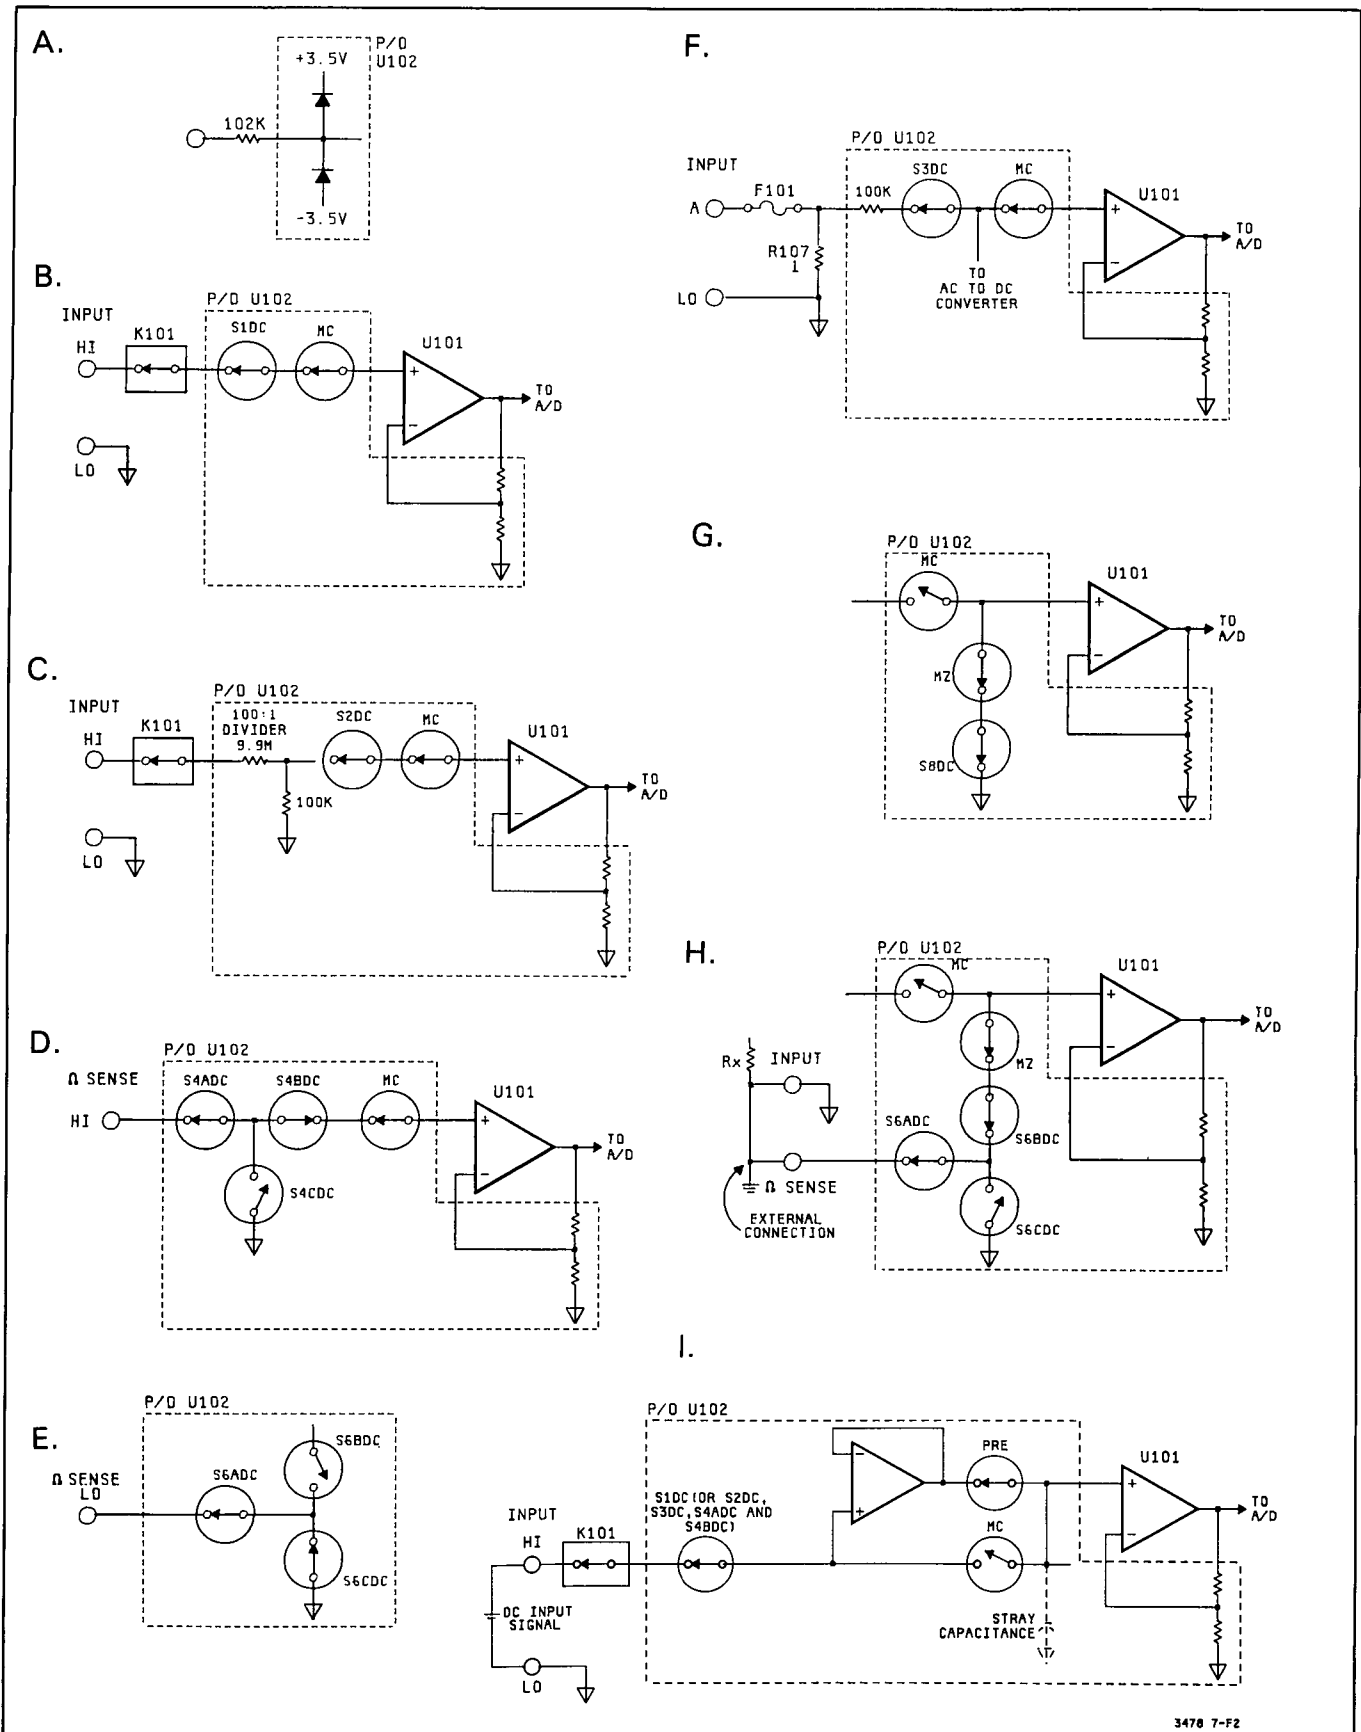

Figure 7-F-2. Simplified Schematic Of The Input Switching Circuitry
b. **Low Voltage Protection.** This circuit consists of diodes connected to the individual input nodes (part of the HI INPUT, LO INPUT, A INPUT Paths, etc.). The diodes on each node are connected (internally in U102) to +3.5V and -3.5V power supplies. If the voltage on a node exceeds either +4.2V or -4.2V, a diode conducts and keeps the level on the node to the $\pm 4.2V$ levels. The difference between the high voltage at the input terminals and the voltage at the input nodes is dropped across the resistors which are in series with the diodes and input terminals (the low pass filter). Figure 7-F-2A shows a typical protection circuit.
7-F-13. Input Switching. The Input Switching Circuitry consists mostly of Relay and MOSFET switches, with most FET switches located in U102. The purposes of the switches are to provide five signal paths to the Input Amplifier and to connect the amplifier for a zero measurement (done in the Autozero Function; see paragraph 7-F-14). The switches are controlled by circuits in U102 which receive their control information from the A/D Controller. The following explains the various input paths. Refer to Figure 7-F-2 and Schematic 1 for the explanation.
a. **Low Voltage Range Input Path (Figure 7-F-2B).** The path consists of K101, R103, R104, R110, and S1DC (S1DC is in U102). The purpose of the path is to connect the HI INPUT Terminal (high input voltage) to the DC/Ohms Input Amplifier. The path is used only in the 30mV through 3V dc volts Ranges and all Ohms Ranges.
b. **High Voltage Range Input Path (Figure 7-F-2C).** The path consists of R110, K102, S2DC (in U102), and a 100:1 divider (9.9M ohm and 100K ohm resistors, RD99 and RD98, in U102). The purpose of the path is to attenuate input voltages by a factor of 100 and to connect the attenuated voltage to the DC/Ohms Input Amplifier. The path is used only in the 30V and 300V dc volts Ranges.
c. **Ohms High Sense Path (Figure 7-F-2D).** This path consists of R105, R106, and S4ADC and S4BDC (S4ADC and S4BDC are in U102). The path connects the HI OHMS SENSE Terminal (high ohms input) to the DC/Ohms Input Amplifier, only when the 3478A is in the 4-Wire Ohms Function. Switch S4CDC (which is also part of the path) is used to connect the junction of S4ADC and S4BDC to ground. Switch S4CDC is closed in all functions except the 4-Wire Ohms Function and shunts any possible voltage on the S4ADC and S4BDC junction to ground.
d. **Ohms Low Sense Path (Figure 7-F-2E).** This path consists of R101, R102, and S6ADC and S6CDC (S6ADC and S6CDC are in U102). The path is used to connect the LO OHMS SENSE Input Terminal (low ohms input) to ground (LO INPUT Terminal), when the 3478A is in the 4-Wire Ohms Function. In the 2-Wire Ohms Function, the low ohms input is the LO INPUT Terminal (which is connected to ground).
e. **Current Input Path (Figure 7-F-2F).** This path includes R107 and S3DC (in U102). The voltage drop across R107 (which is generated by the current being measured) is connected through S3DC to the DC/Ohms Input Amplifier. This path is used only in the DC Current Function.
a. **Autozero (in the DC Volts, DC Current, and 2-Wire Ohms Functions).** In the DC Volts, DC Current, and 2-Wire Ohms Functions, the zero measurement is made with switch MC (measure customer) open, and switch MZ (measure zero) and S8DC closed (see Figure 7-F-2G). Switch S8DC and MZ connects the DC/Ohms Input Amplifier to ground through a 102K ohm resistor. After the zero measurement is made, switch S8DC and MZ opens, and switch MC closes for the input measurement. (Note: MOSFET switches MC, MZ, and S8DC are in U102.)
b. **Autozero (in the 4-Wire Ohms Function).** In the 4-Wire Ohms Function, the zero measurement is made with switch MC (and S8DC) open and switch MZ, S6ADC, and S6BDC closed. The DC/Ohms Input Amplifier is connected to ground through the Ohms Low Sense Path (includes an externally connected lead; see Figure 7-F-2H) to the LO INPUT Terminal. This measurement is different than in the DC Volts, DC Current, and 2-Wire Ohms Functions, since the Input Amplifier is connected to ground through the externally connected low ohms sense and lo input leads. After the offset measurement is made, switch MC and S6CDC closes and switch MZ, S6ADC, and S6BDC opens. Switch S6CDC is used to connect the junction of switch S6ADC and S6BDC to ground, shunting any possible voltage on the junction to ground. (Note: MOSFET switches S6ADC, S6BDC, and S6CDC are in U102.)
7-F-15. Pre-Charge Stage (Figure 7-F-2I). A small stray capacitance exists in U102 between the input of the DC/Ohms Input Amplifier and ground. During a zero